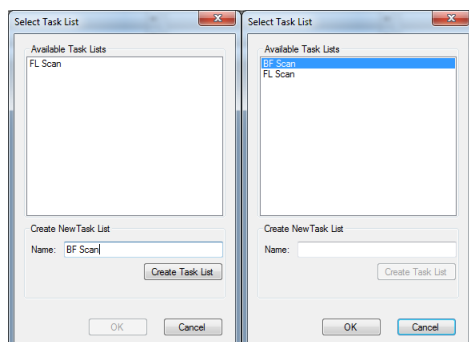

Figure 59. The Select Task List window where you can create a new task list (left) or select and then load a previously created task list (right).
5. Click the **Task List Select** button to create and name a task list. Type a Task List name in the **Name** box and click the **Create Task List** button. Click **OK** (see Figure 59).